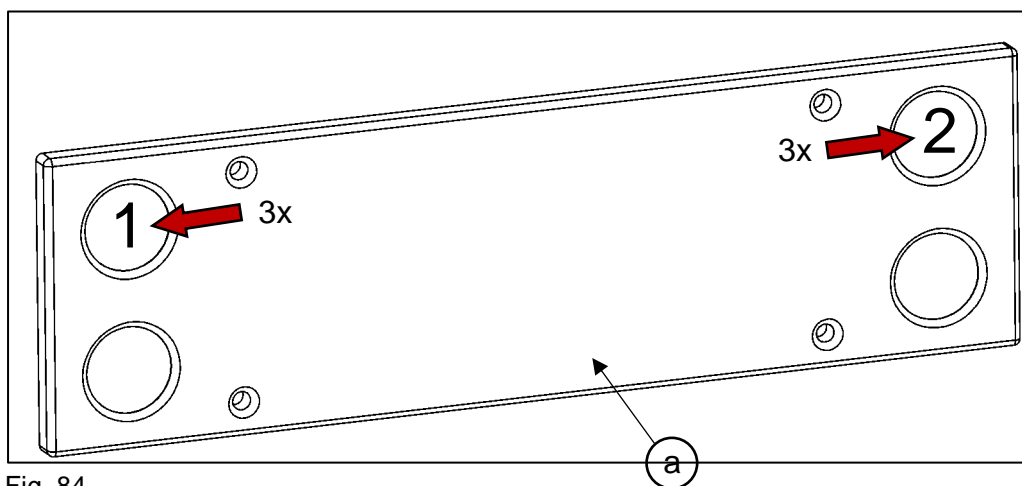

Fig. 84
- On the control panel (a), press button 2 (top right) 3 times (see Fig. 84).